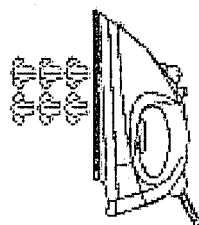

FIGURE 12
7. Hold the iron 7-15 inches away from the garment and press the burst of steam button once (see FIGURE 12).